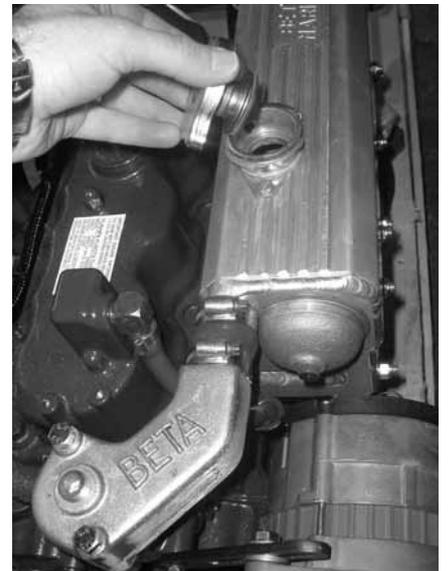

Fig. 2m
- (c) Fill engine with freshwater/anti freeze solution through the top of the heat exchanger or header tank with the filler cap removed. (see fig 2m).